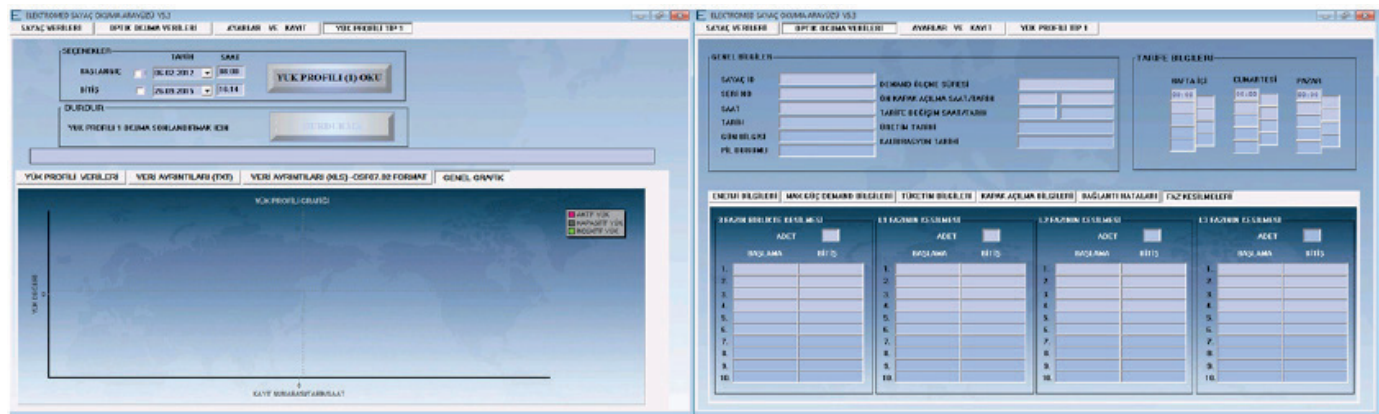

Figure-4
11) Remote access to all the data stored by the meter is made possible by the software. Use the relevant tab for remote access. (Figure-4)